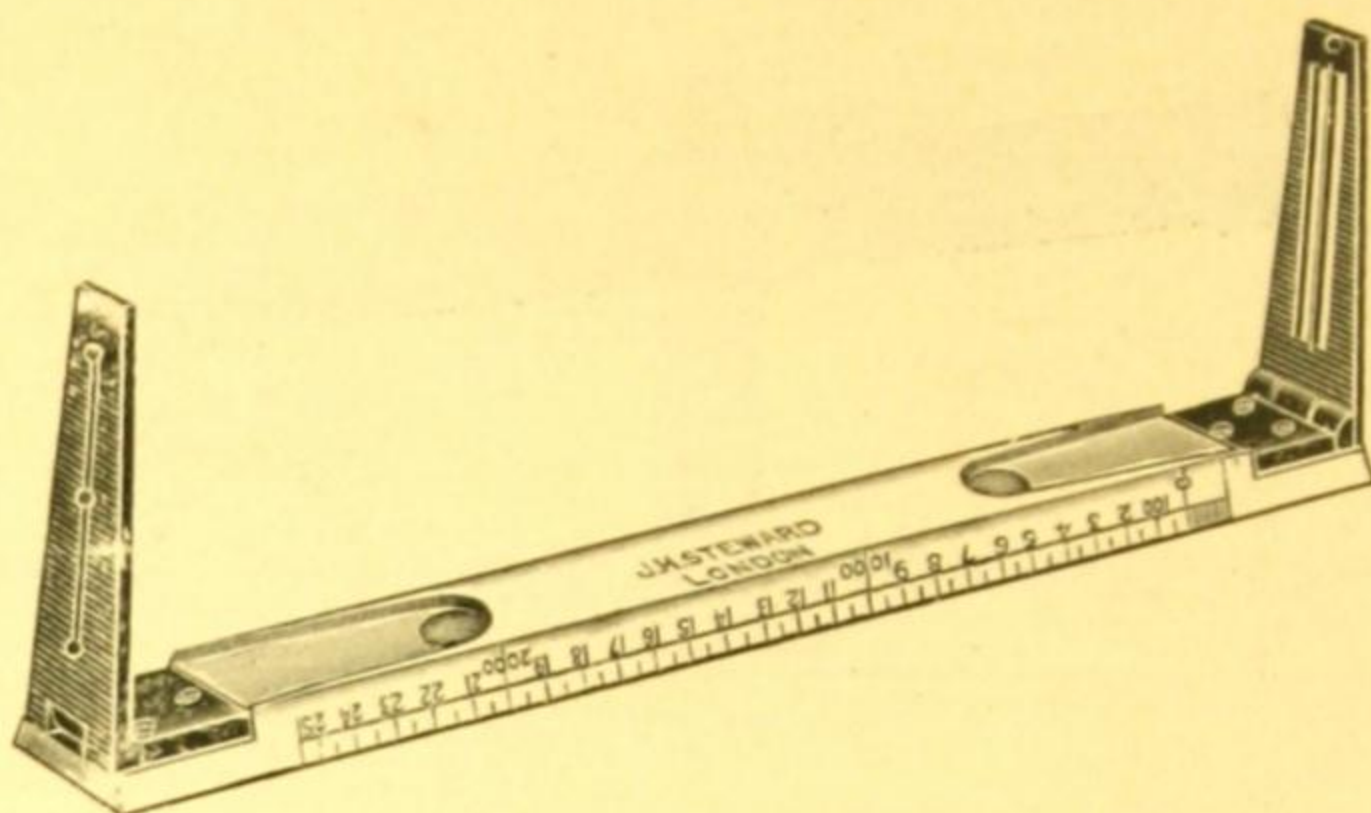

Fig. 35. Boxwood Alidade.
- SM 172.—**12-inch Boxwood Alidade**, with 3-inch folding metal sights with holes for string attachment for taking rays on steep slopes, bevelled edges divided to inches and 10ths and millimetres. Fig. 35      **£1 10 0**